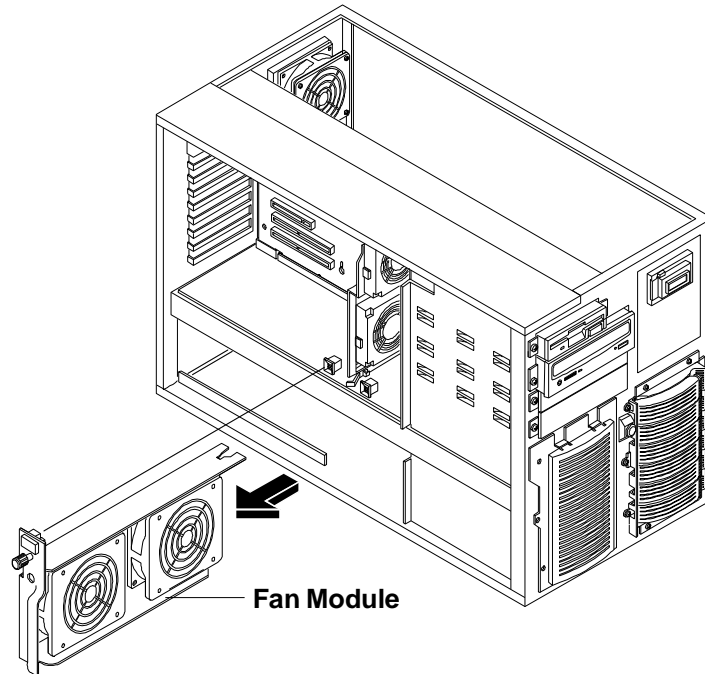

Figure 2-1. Fan Module Removal
1. Loosen the two Torx screws on the front panel to be removed cabinet (see Figure 2-1).
2. Remove the fan module behind the power supplies. To remove the fan module, loosen the thumbscrew, then pull the fan assembly out of the cabinet using the handle. See Figure 2-1.